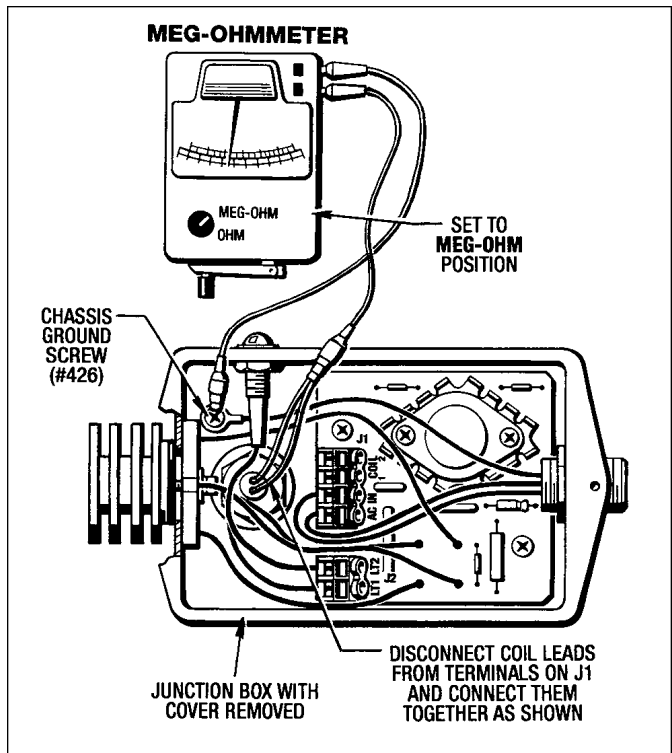

Figure 6.2 - Coil Current Leakage Testing
Connect (1) alligator clip to both Coil Leads and the other one to Chassis Ground Screw (#426). (See Figure 6.2)